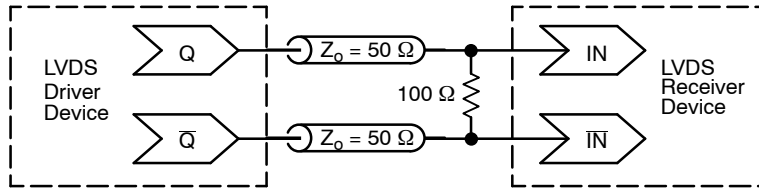

Figure 20. Typical LVDS Termination for Output Driver and Device Evaluation
5. LVDS outputs require 100 Ω receiver termination resistor between differential pair. See Figure 20.
12. Measured by forcing $V_{INPPmin}$ with 50% duty cycle clock source and $V_{CC} - 1400\text{ mV}$ offset. All loading with an external $R_L = 100\ \Omega$. Input edge rates 150 ps (20%–80%). See Figure 20.